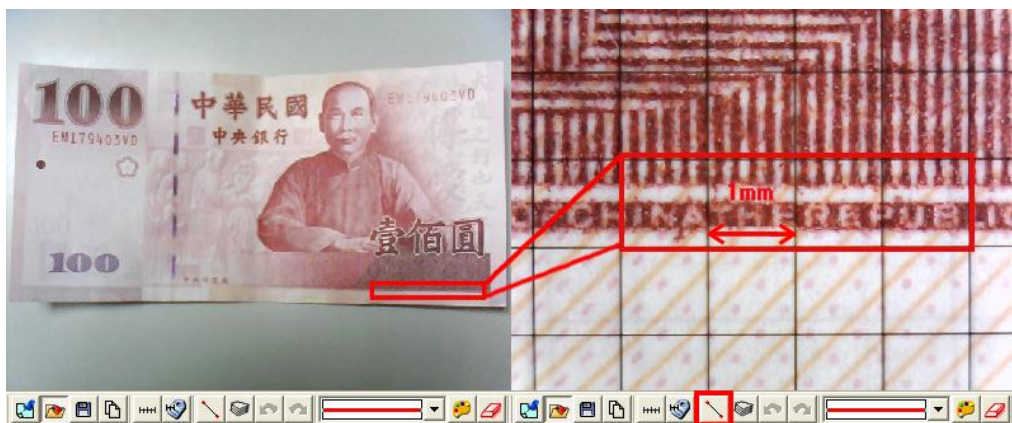

Fig. 5-33 Low Magnification Grid
- b. 1mm Low Magnification Grid: To place the grid (See above chart b) on the object as the bill (fig5-33), the length for each square is 1mm.